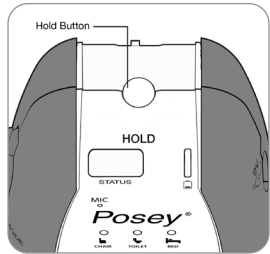

Fig. 10
1. Press **HOLD** button on the top of fall monitor once to initiate a 30 second hold or continuously press the HOLD button for 3 seconds to initiate an extended hold of 5 minutes. (Fig. 10) The **STATUS LED** will begin flashing RED indicating the fall monitor is in HOLD mode an audio cue will indicate that either a 30 second or 5 minute hold has been activated.